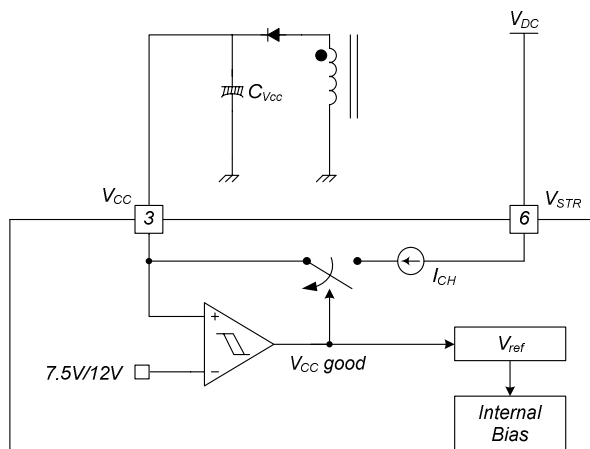

Figure 17. Startup Block
1. Startup: At startup, an internal high-voltage current source supplies the internal bias and charges the external capacitor (C_{VCC}) connected to the V_{CC} pin, as illustrated in Figure 17. When V_{CC} reaches 12V, the FSGM0565RB begins switching and the internal high-voltage current source is disabled. The FSGM0565RB continues normal switching operation and the power is supplied from the auxiliary transformer winding unless V_{CC} goes below the stop voltage of 7.5V.